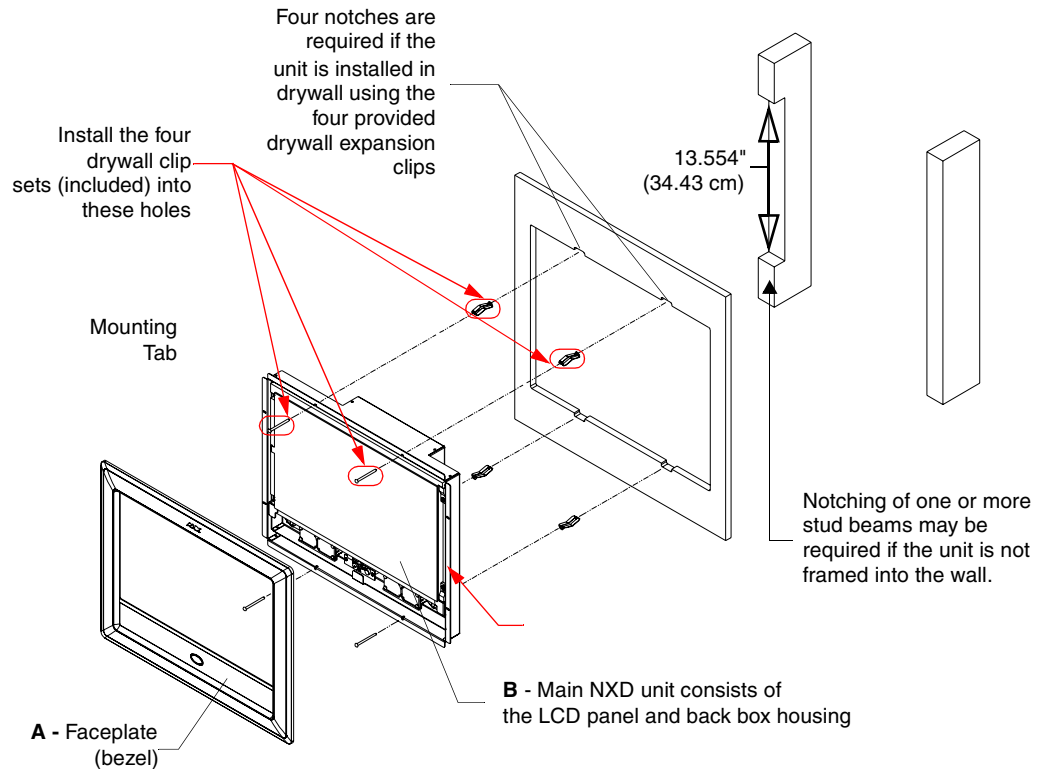

FIG. 60 Wall Mount panel (NXD) installation using expansion clips
5. Remove the magnetic faceplate/bezel (A in FIG. 60) from the main NXD unit (B in FIG. 60) by gripping the faceplate and pulling with gentle outward force.
15. Install the four sets of drywall screws and expansion clips into the four oval notch locations along the top/bottom edges of the main unit (FIG. 60). Make sure the top drywall clip grooves face upwards and the bottom clip grooves face downwards (*so they extend away from the Main unit*).
16. **Carefully insert the main unit (with expansion clips) into the cutout until the Mounting Tabs on the NXD unit lie flush against the wall** (FIG. 60). Make sure to have the right side of the box resting against the non-notched beam (on the right) and the connector-side of the unit pressed into the notched beam (on the left).
18. Place the magnetic faceplate (A in FIG. 60) back onto the main NXD unit. Make sure to align the Microphone, Light, and PIR Motion sensor locations to their respective openings on the front bezel/faceplate.